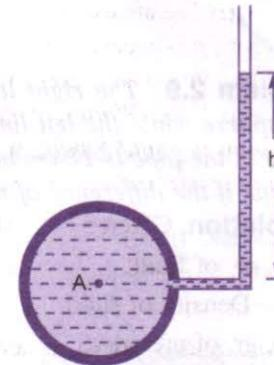

Fig. 2.8 Piezometer.
2.6.1 Piezometer. It is the simplest form of manometer used for measuring gauge pressures. One end of this manometer is connected to the point where pressure is to be measured and other end is open to the atmosphere as shown in Fig. 2.8. The rise of liquid gives the pressure head at that point. If at a point A, the height of liquid say water is h in piezometer tube, then pressure at A